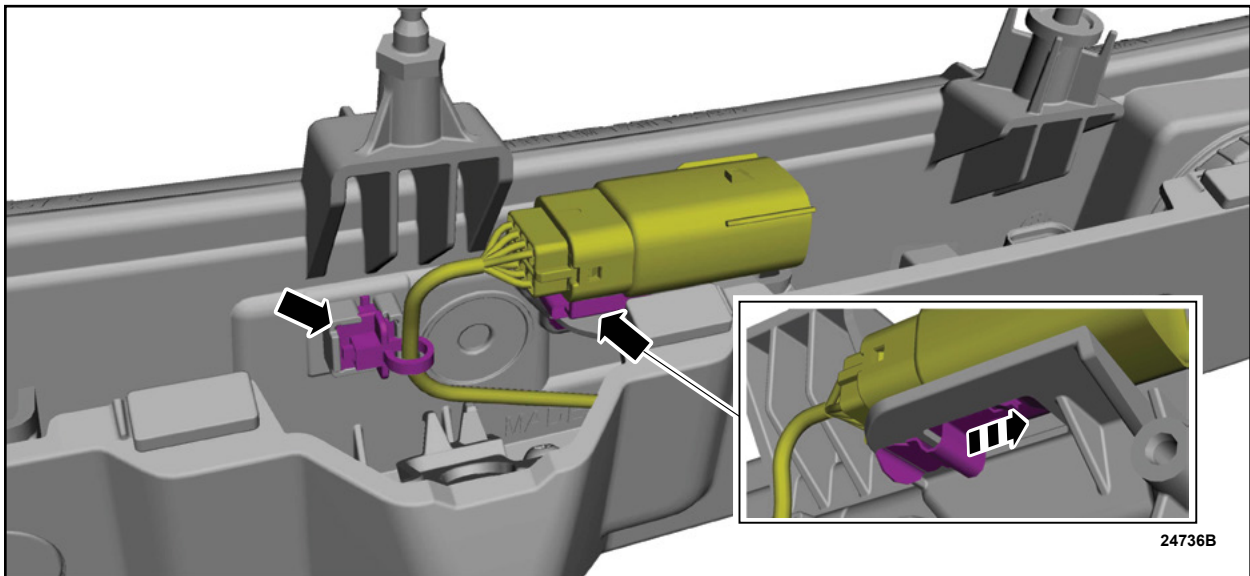

FIGURE 4
3. Release the electrical connector, separate the wiring guide and position the connector aside. See Figure 4.